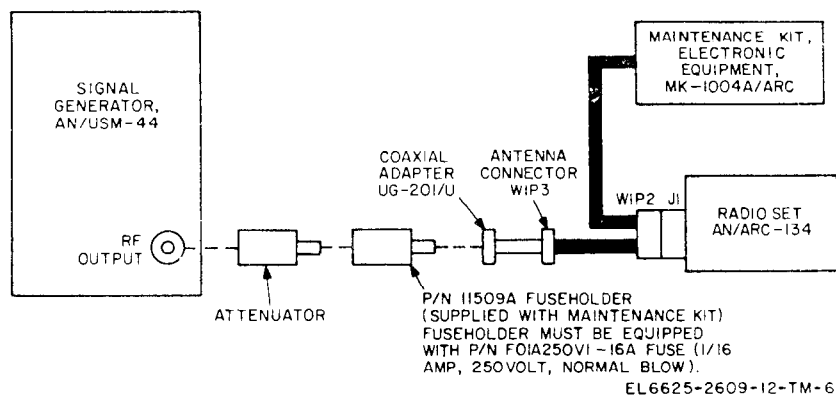

Figure 2-2. Radio Set AN/ARC-134 connected to maintenance kit.
b. Connect the AN/ARC-134 to the maintenance kit as shown in figure 2-2.
In (2) below, be sure to connect the 11509A fuseholder between the output receptacle of the AN/USM-44 and antenna connector W1P3 (fig. 2-2) on the maintenance kit. The fuseholder should be equipped with a FO1A250V1-16A fuse. Do not press the PTT switch on the microphone or the test panel when the very high frequency (vhf) signal generator is connected to connector W1P3.
(2) Connect the AN/USM-44 to antenna connector W1P3 on the maintenance kit (fig. 2-2). Set the AN/USM-44 for a 132.500-MHz signal, modulated 30 percent at 1000 Hz, and set the output attenuator for a 3-microvolt output.
(3) Set the VHF COMM frequency selector switches to 132.500 MHz. An output indication should be obtained on the ME-30A/U.
(4) Connect the ME-30A/U to the DATA LINK OUTPUT jacks. The indicated voltage should be considerably lower than that obtained in (3) above.